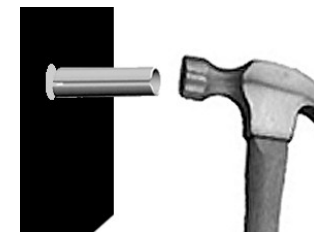

FIG. 2a
- Lightly hammer the hollow pins provided (FIG. 2a) in to the holes from the outside. One end will be narrower than the other.